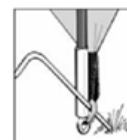

Figure 2.
- Peg the corners of the tent through the metal rings using pin-pegs (figure 2)